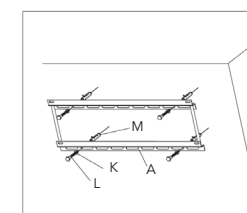

fig. 2.3
Put two bolts in the top row of slots and two in the bottom row. Make sure these holes are level, and that there is at least 15.2cm (6") between any two holes. Insert the wall anchor (M) into these holes respectively, making sure they are flush with the wall surface. Finally use the four square head screw bolts (L) to install the wall plate to the wall (as shown in fig. 2.3).